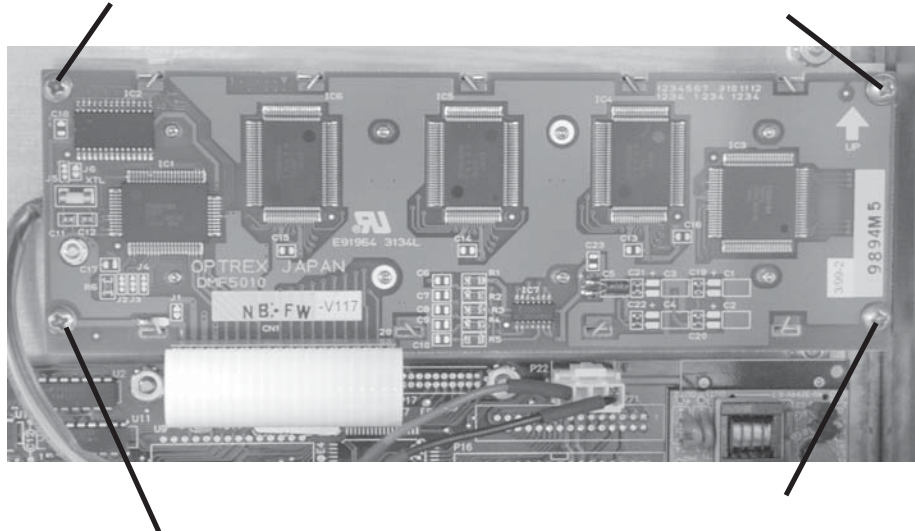

Figure 15
6. To remove the display module, disconnect the cables and remove the four screws holding the module to the backer plate and pull it from the case. See Figure 15.